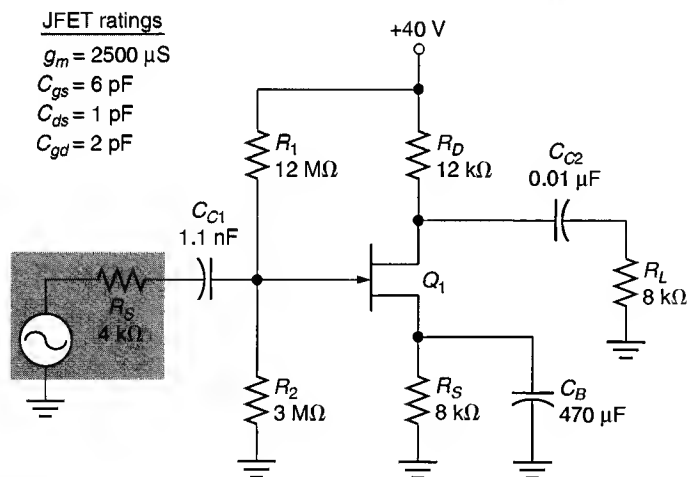

FIGURE 14.37
39. Calculate the overall values of f_{C1} and f_{C2} for the amplifier in Figure 14.37.